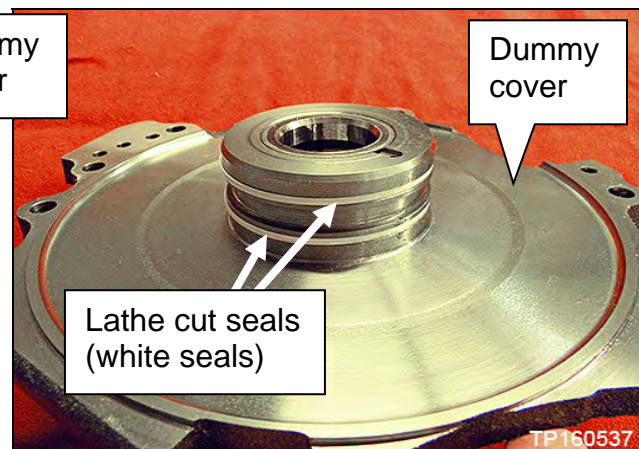

Figure 20B
- Do NOT remove the lathe cut seals (white seals, Figure 20B) from the dummy cover. These seals will be reused.